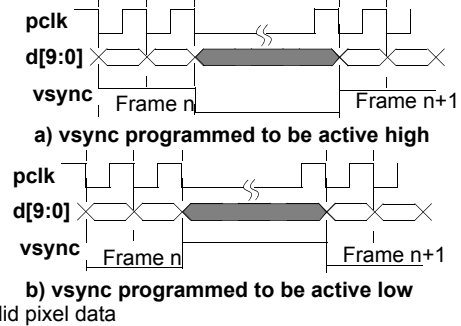

Figure 45. *vsync* in Level Mode
- **Level mode** should be used when the pixel clock, *pclk*, is programmed to operate in *free running mode*. In level mode the *vsync* output pin will go to the specified level (high or low) at the start of each frame and remain at that level until the last pixel of the last row in the frame is placed on *d[9:0]* as shown in Figure 45. The *vsync* level is always synchronized to the active edge of *pclk*. The *vsync* pin is put into level mode by setting the *VsyncMode* bit of the *DVBUSCONFIG1* register to a logic 0. The active level of the *vsync* is programmed using the *VsyncPol* bit of the *DVBUSCONFIG1* register.